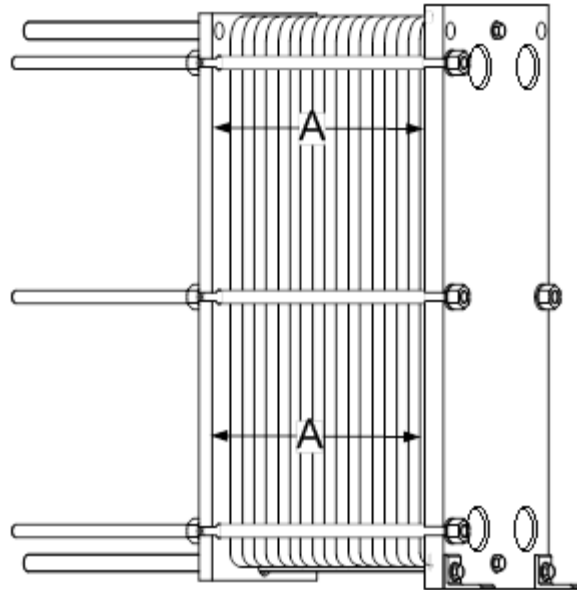

Figure 8-14. Tightening Plate Pack Bolts
8. Place bolts in position and tighten the plate pack using diagonally opposite bolt pairs, (the opposite of the opening procedure in section 8.7.1, step 10) until the plate pack length is reduced to $\pm 1\%$ of dimension "A" in the channel plate assembly instructions supplied with unit. During tightening. The pressure plate must not be out-of-parallel to the frame plate by more than $3/8$ " in the horizontal plane and 1" in the vertical plane. See Figure 8-14.